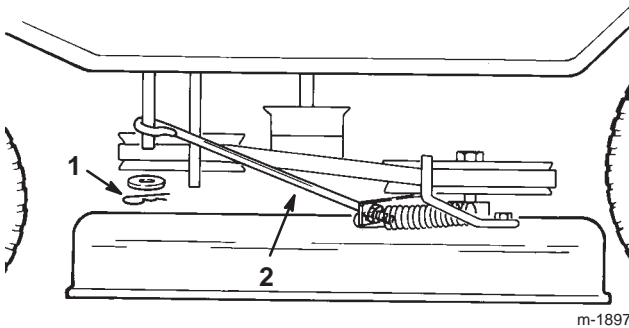

Figure 39
- Install the blade control rod onto the blade control arm and secure it with the washer and hairpin cotter (Fig. 39).